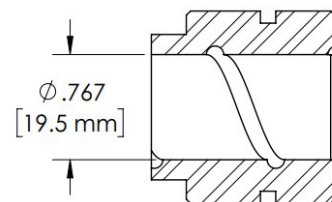

figure 17
- Inspect the bushings (items 5A) - The silicon carbide parts will not wear under normal operation. Polishing on a silicon carbide surface is a normal occurrence and usually does not require replacement. Check for signs of melting around the perimeter of the bushings. Make sure that the spiral groove on the bushing ID is not plugged. Check for chips or cracks on the rear face. Check bushings for wear (see figure 17). If the bushings appear worn, follow the steps listed in the section "Replacing Wear Components, Impeller Bushings."